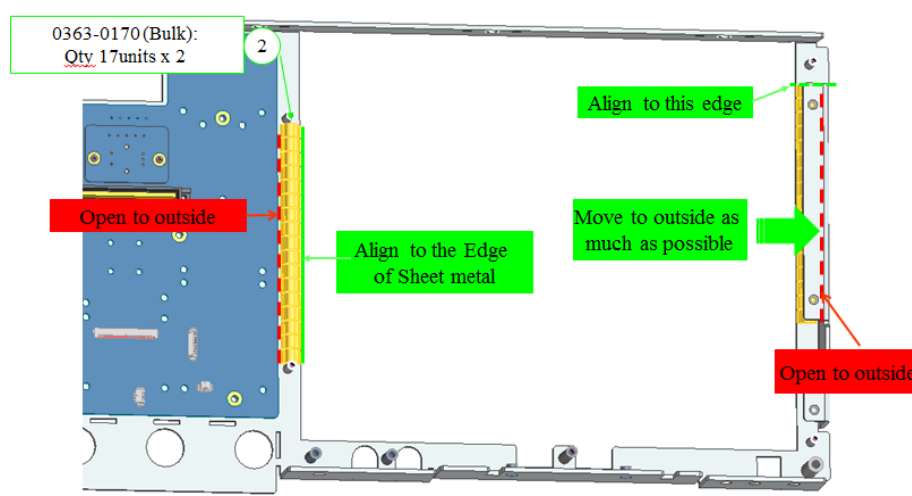
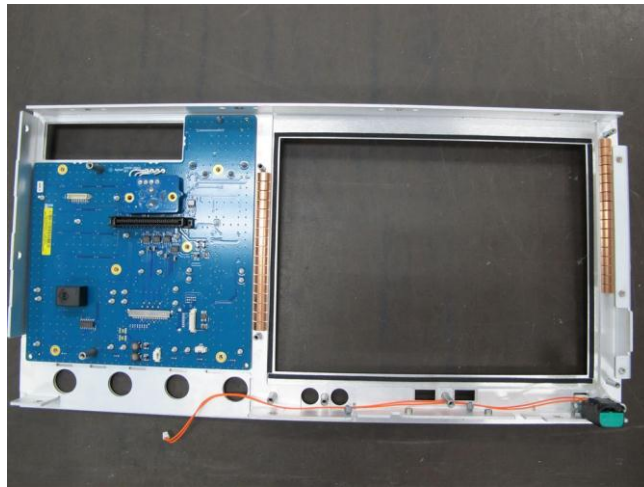

Figure 2-2
Figure 2-3
2. Install the gaskets as shown in Figure 2-2. Figure 2-3 illustrates the Front panel with the keyboard installed.